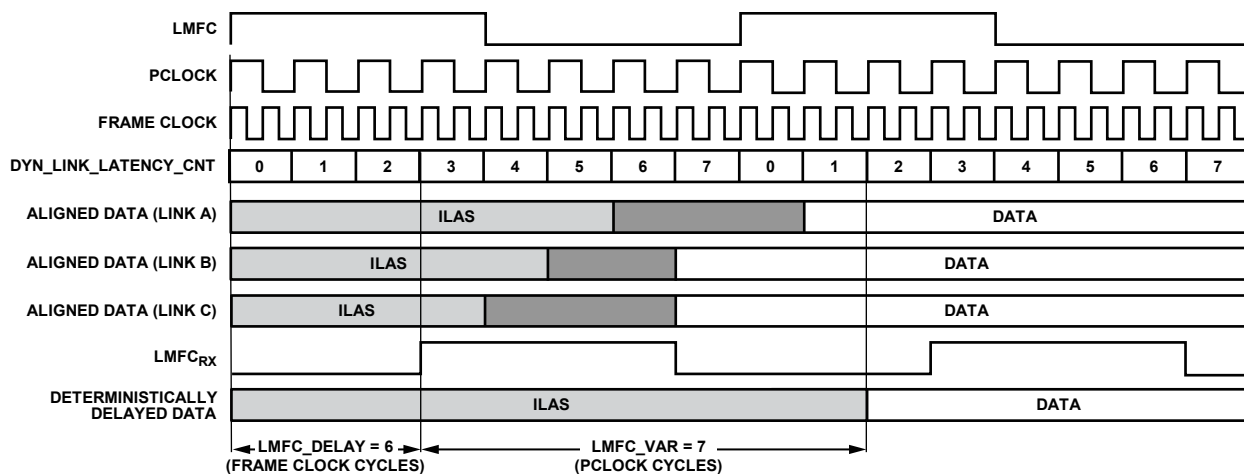

Figure 52. Multilink Synchronization Settings, Derived Method Example
Figure 52 shows how DYN_LINK_LATENCY_0 (Register 0x302) provides a readback showing the delay (in PClock cycles) between LMFC_{RX} and the transition from ILAS to the first data sample. By repeatedly power-cycling and taking this measurement, the minimum and maximum delays across power cycles can be determined and used to calculate LMFCVar and LMFCDel.
The example shown in Figure 52 is demonstrated in the following steps according to the procedure outlined in the Without Known Delays section. Note that this example is in Subclass 1 to achieve deterministic latency, which has a PClockFactor (frame clock rate/PClockRate) of 2 and uses K = 16; therefore PClocksPerMF = 8.
1. In Figure 52, for Link A, Link B, and Link C, the system containing the AD9152 (including the transmitter) is power cycled and configured 20 times. The AD9152 is configured as described in the Device Setup Guide. Because the point of this exercise is to determine LMFCDel and LMFCVar, the LMFCDel is programmed to 0 and DYN_LINK_LATENCY_0 is read from Register 0x302.
The variation in the link latency over the 20 runs is shown in Figure 52 in gray.